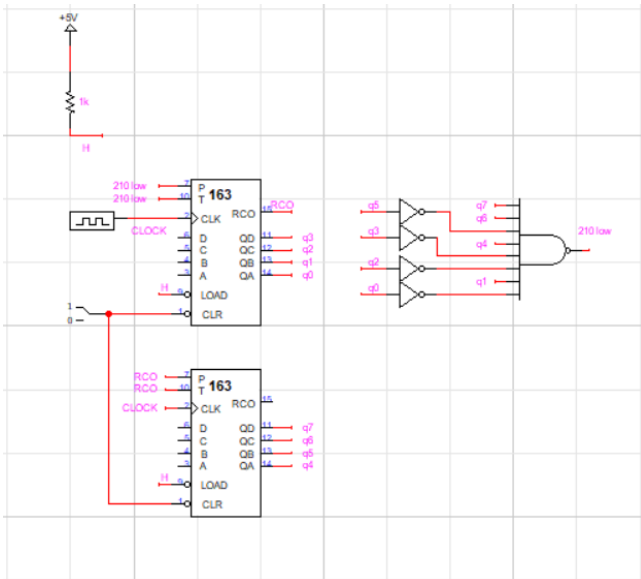

Figure 4. Complete circuit. Two counters cascaded together, and an 8-input NAND gate set to produce a low input once it reaches 210.
2. Set up the 8-input NAND gate as pictured in Figure 4.